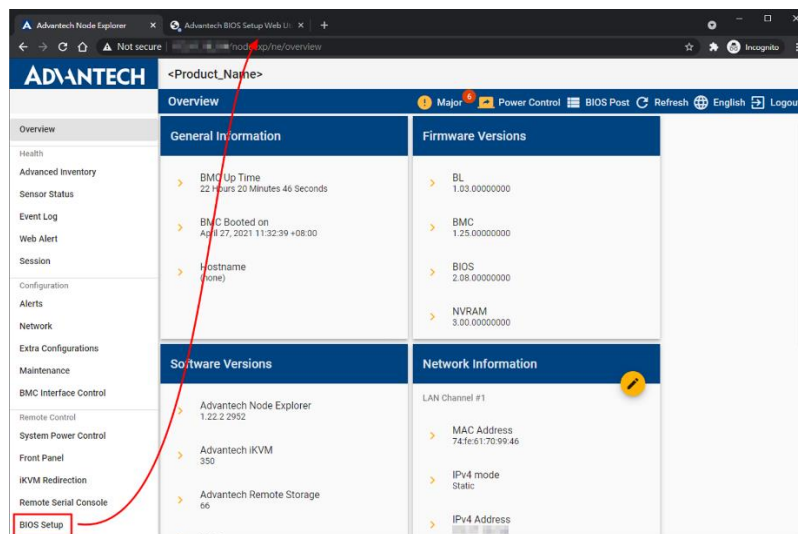

Figure 113: Open BIOS Setup Page
1. Click **BIOS Setup** on the left toolbar, the BIOS setup page will be shown in a new tab of the browser (see Figure 113).